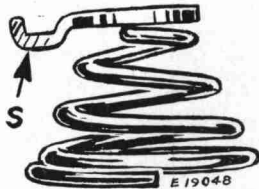

FIG. 24
**NOTE:** If the spring and stop washer are in correct position, the extension **S** will clear the first half-coil of the spring, as shown in **Fig. 24**.